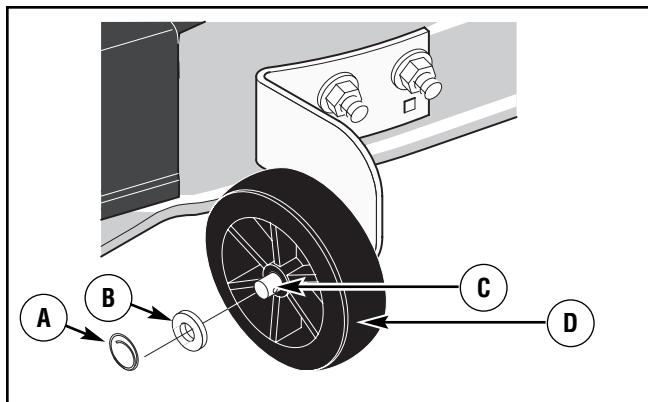

Figure 36: Gauge wheel assembly
1. Remove the **gauge wheels** (Figure 36).